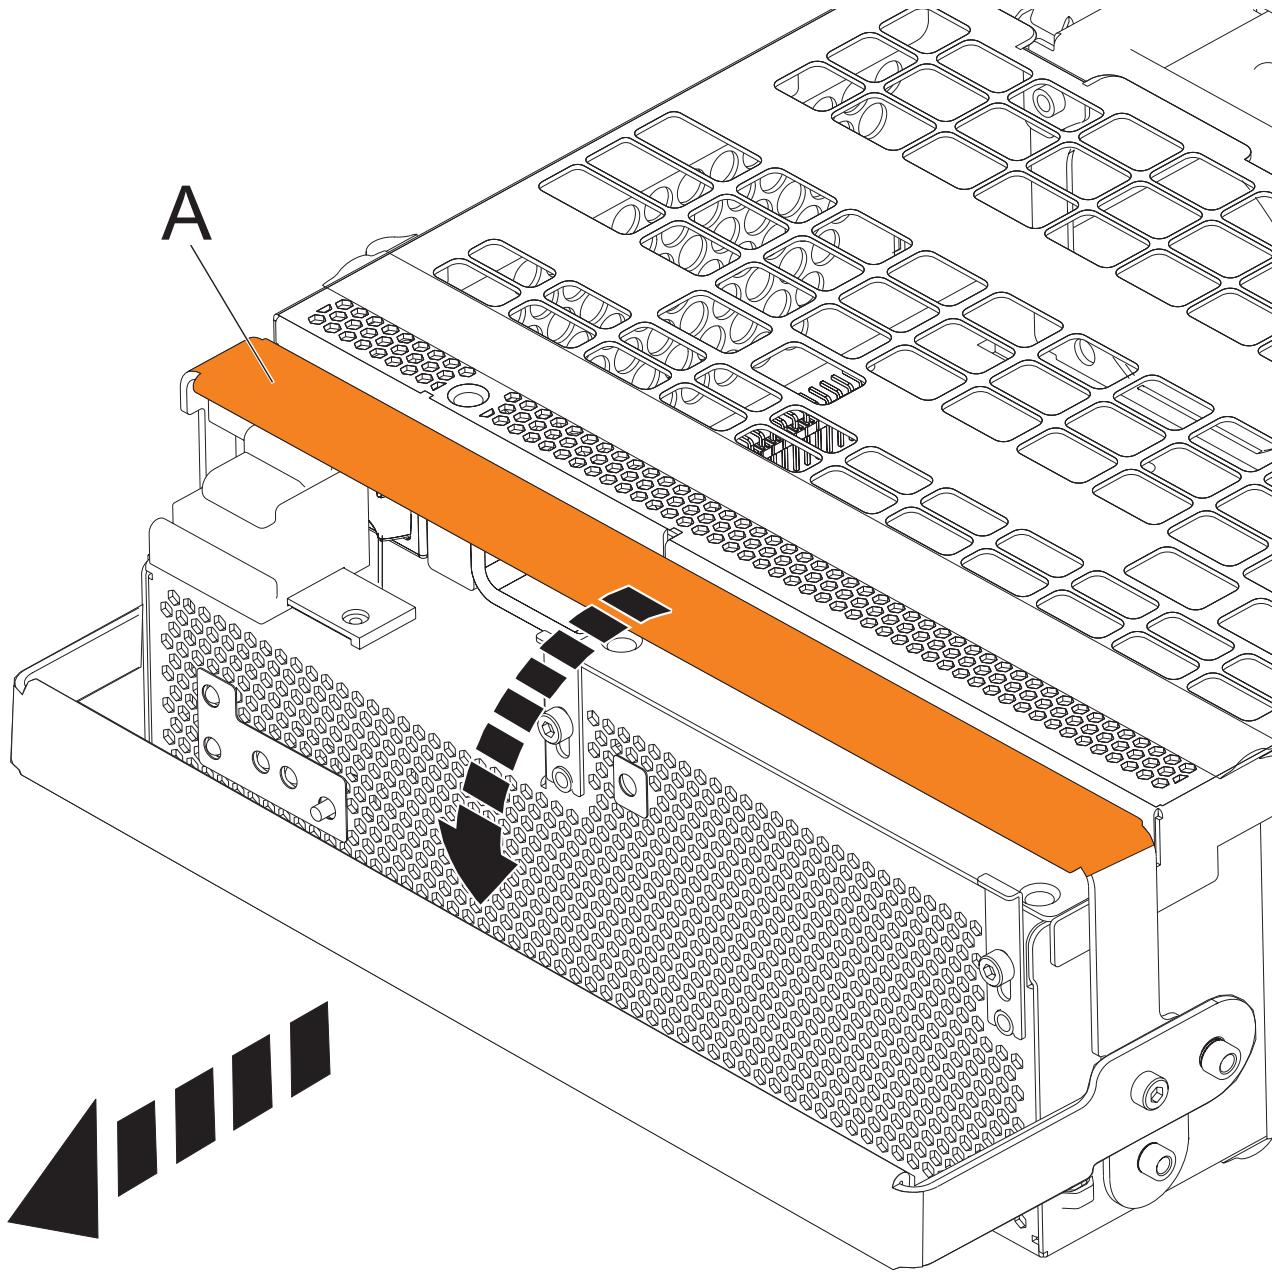

Figure 66. Remove the offline converter assemblies
- a. Pull the OCA handle (A) all the way down in the direction shown to unseat the OCA. See Figure 66 on page 85.